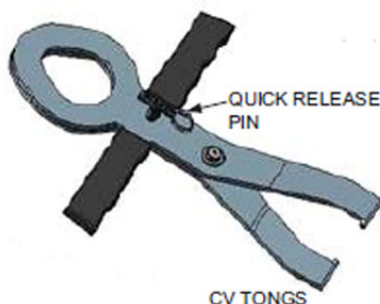

Figure 2-8. CV tongs.
- Attach the CV tongs (fig. 2-8) to the cone seal nut and install a QRP. The CV may weigh up to 100 pounds, so a hoist is recommended to help lift the vessel out of the H1700. Manually, or by using a hoist, lift the vessel and lower it into the CV stand ensuring the notches on the CV align with the bar in the CV stand.